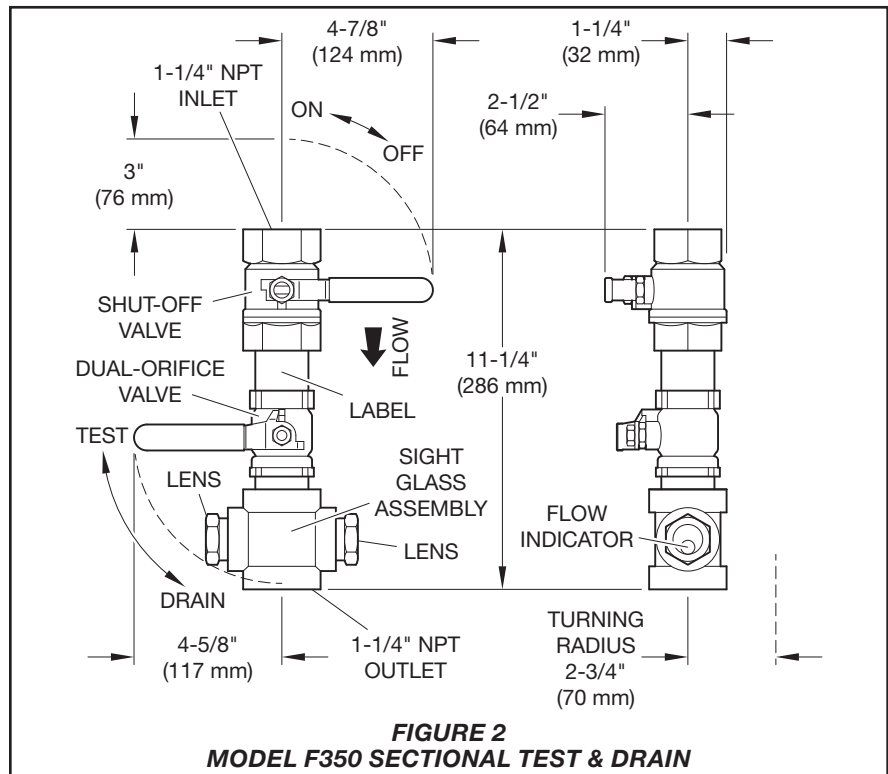

FIGURE 2
The TYCO Model F350 Sectional Test & Drain (Ref. Figure 2), with an integral Sight Glass Assembly, provides a simplified means for testing of waterflow alarm devices and draining of feed mains. It is typically utilized for connection to a common inside drain where it is not practical to terminate an inspector's test connection outside of a building.
Step 2. The F350 may be installed in any orientation; however, the arrow on the assembly must point in the direction of flow (towards drain) and there must be no restriction to the full movement of the valve handles (Ref. Figure 2).